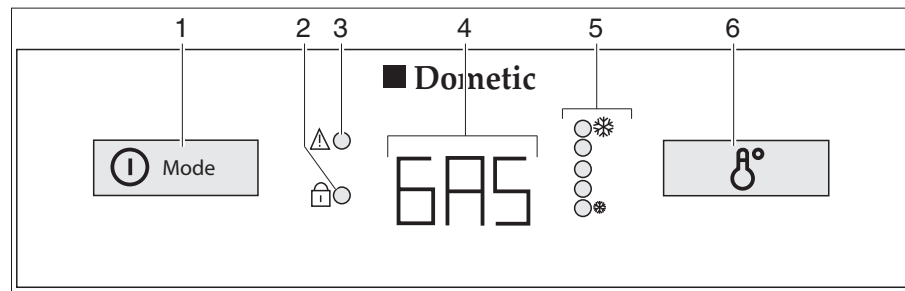

Fig. 270 Operating controls for the refrigerator (Dometic 8 series with AES)
In the case of a fault, the LED display fault will flash " " (Fig. 270,3).
If the 240 V power supply is **not** connected and the vehicle's engine is **not running** the AES selects the gas supply. When selecting gas operation the ignition fuse is opened automatically so gas can get into the burner. At the same time the electronic ignition is activated. If the gas flame is extinguished, e.g. by blast of wind, the ignition is activated immediately and re-ignites the gas. In the case of a fault in gas operation the text "GAS" flashes in the operating indicator (Fig. 270,4).
When turned on the first time the refrigerator automatically selects the middle thermostat position. This position can be adjusted manually by using the switch for temperature setting (Fig. 270,6). The indicator LEDs (Fig. 270,5) show the selected thermostat position. The refrigerating temperature for the three types of energy is set with the switch. It takes a few hours till the refrigerator reaches its normal operating temperature. When changing over the operating mode the thermostat setting will be maintained. The refrigerating temperature is retained regardless of the type of power being used.
- Press the on/off switch/energy selector switch (Fig. 270,1) down for 2 seconds in order to switch on the appliance. The operating mode selected most recently is shown in the operating indicator (Fig. 270,4).
- Select the energy type with the on/off switch/energy selector switch (Fig. 270,1).
- Set the refrigerating temperature on the switch for temperature setting (Fig. 270,6). The indicator LEDs (Fig. 270,5) show the selected thermostat position.
- Press down the on/off switch/energy selector switch (Fig. 270,1) for 2 seconds. All displays close.